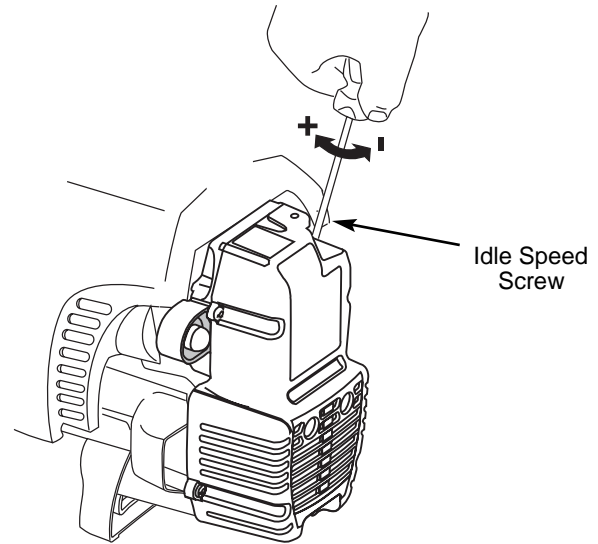

Fig. 22
The idle speed of the engine is adjustable through the air filter/muffler cover (Fig. 22).
2. Move the throttle control to the idle position and let the engine idle. If the engine stops, insert a small phillips or flat blade screwdriver into the hole in the air filter/muffler cover (Fig. 22). Turn the idle speed screw in, clockwise, 1/8 of a turn at a time (as needed) until the engine idles smoothly.